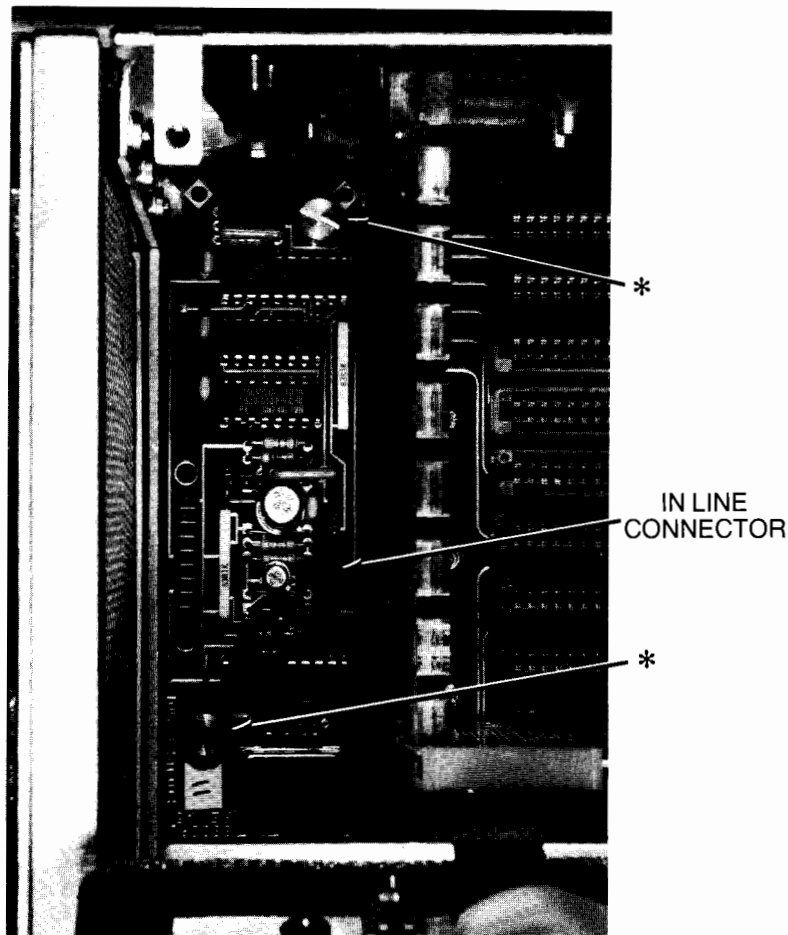

Figure 4-22. Removing Processor Stack Clock Board
6. Loosen two slotted captive screws that hold clock board to stack motherboard (Figure 4-22).
7. Disconnect clock board from processor stack motherboard at inline connector (Figure 4-22).